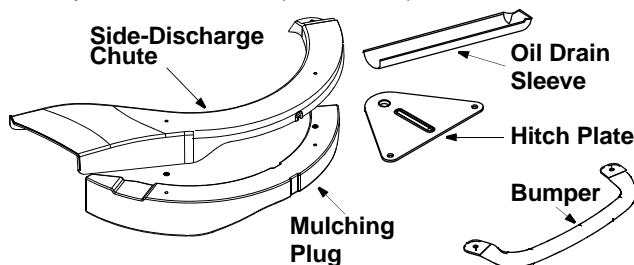

Figure 1
- Remove loose parts from the grass catcher , literature bag and/or the crate very carefully. Refer to Figure 1.
The hitch plate, if equipped, can be located with the loose parts. See Figure 1.